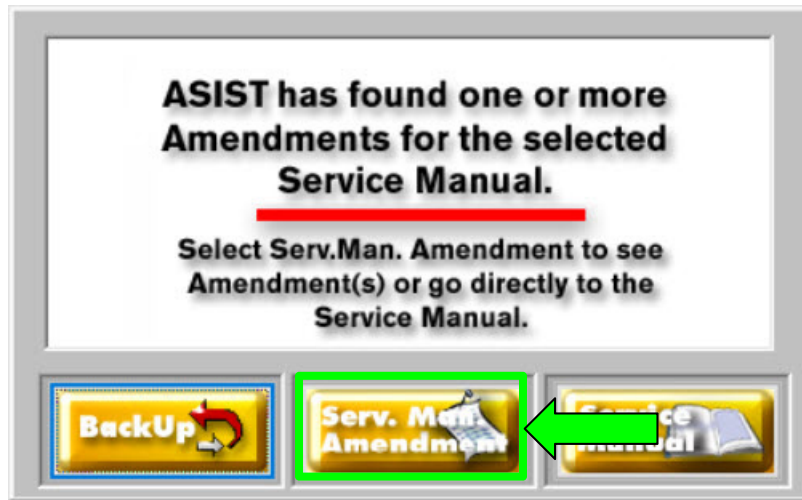

Figure 18
- "Serv. Man. Amendment" (see Figure 18).